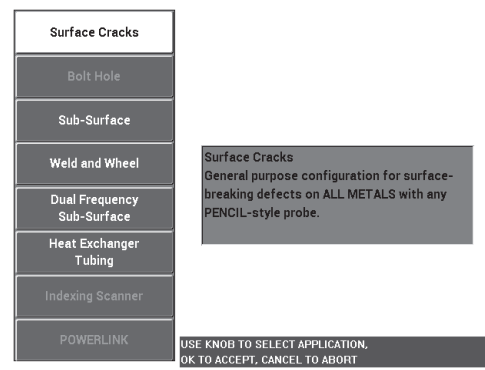

Figure 5-84 The Surface Cracks application
2. Press the ADV SETUP menu key (📄⚙️) once, and then select **APPL SELECT** (A key) to open the application selection menu. Select **Surface Cracks** with the knob, then press ✓ to accept (see Figure 5-84 on page 188).
and adjust the lift-off angle until it is oriented straight upward (90°) [see Figure 5-84 on page 188].